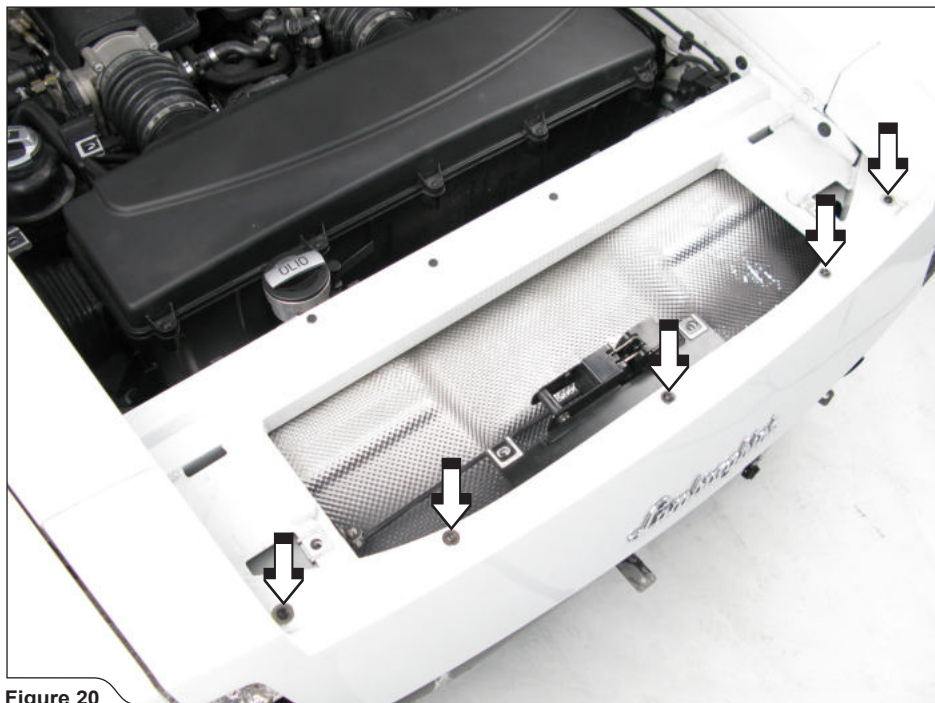

Figure 20
13. Unscrew the marked bolts and remove the tail trim off the vehicle (**Figure 20**).